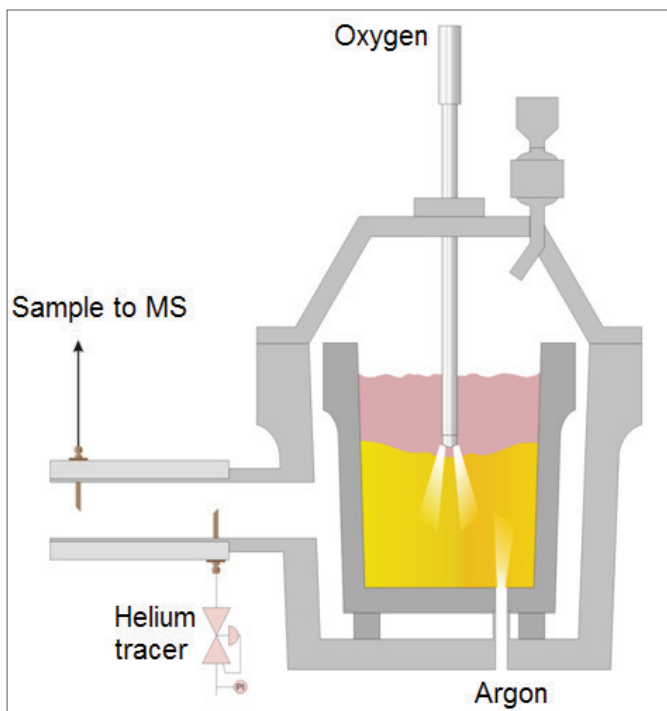

Figure 1 Vacuum Oxygen Decarburization Furnace
This is achieved by decreasing the partial pressure of carbon monoxide to ensure preferential removal of carbon over chromium from the melt. In practice, this is done in the Argon Oxygen Decarburization (AOD) furnace by dilution using argon or in the Vacuum Oxygen Decarburization (VOD) or Ruhrstahl Heraeus (RH) processes by reducing the pressure over the molten metal. Figure 1 shows a typical VOD stainless steel production furnace.